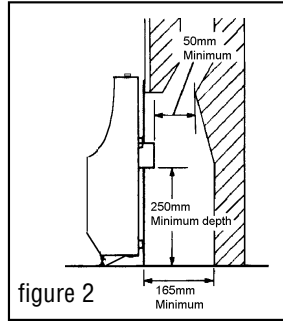

figure 2
See figure 2.
- 3.3.8. If the fire is fitted to a recessed fireplace, an extension flue spigot up to a maximum total length of 125mm may be used. The extension must be a tight fit over the flue spigot and be secured by two self tapping screws. Note the minimum clearance required as shown in *figure 2*.
4.1.1. Place the fire centrally on the hearth making sure that the spigot lines up with the spigot hole in the closure plate. Gently slide the appliance into place. The spigot must enter the closure plate to a depth of at least 25mm (see figure 2).